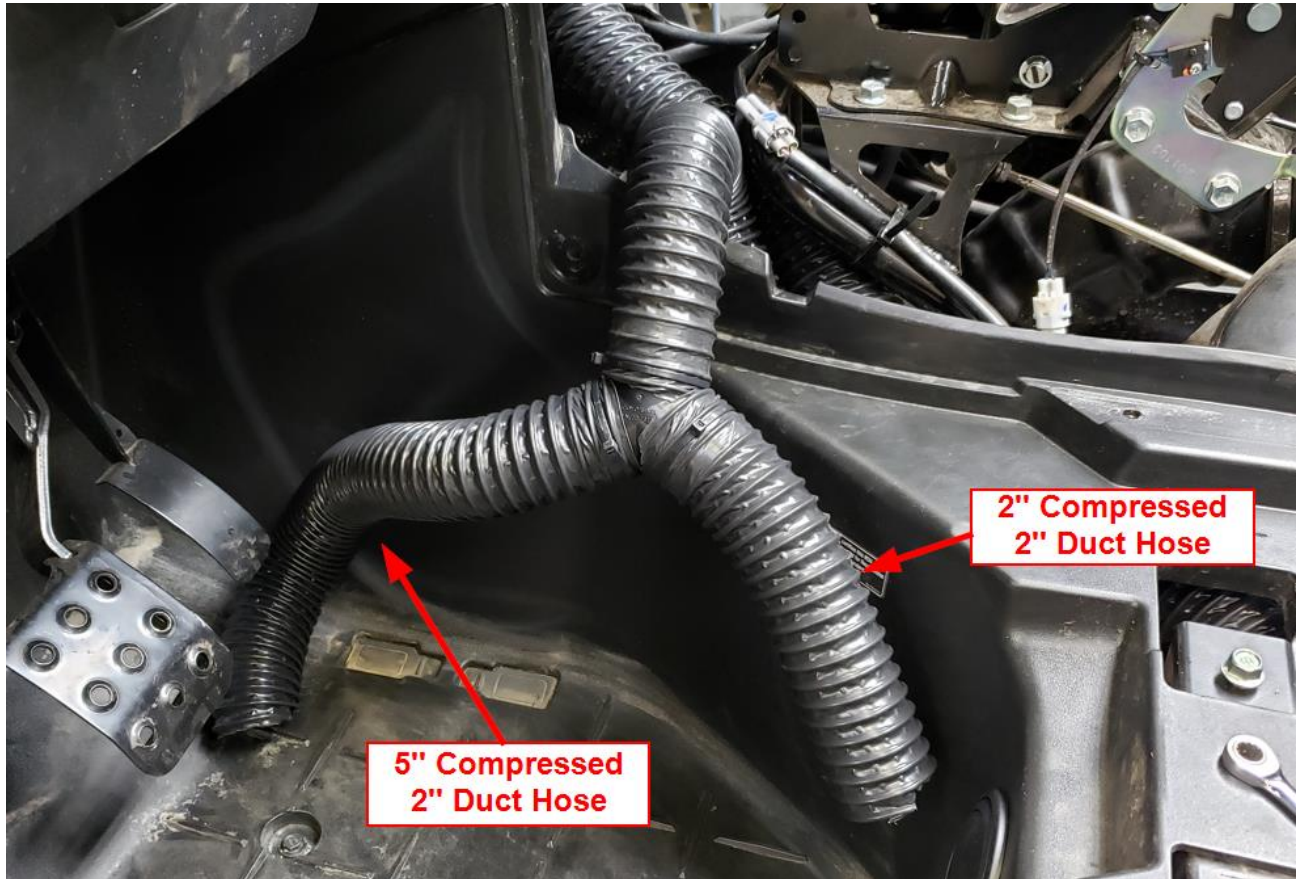

Figure 22
- e. Cut a 5" piece of compressed 2" Duct Hose as well as a 2" piece of Compressed 2" Duct Hose. Attach the hose to the Y fittings on the Driver Side as shown in Figure 22. Secure using zip ties and repeat on the Passenger Side.